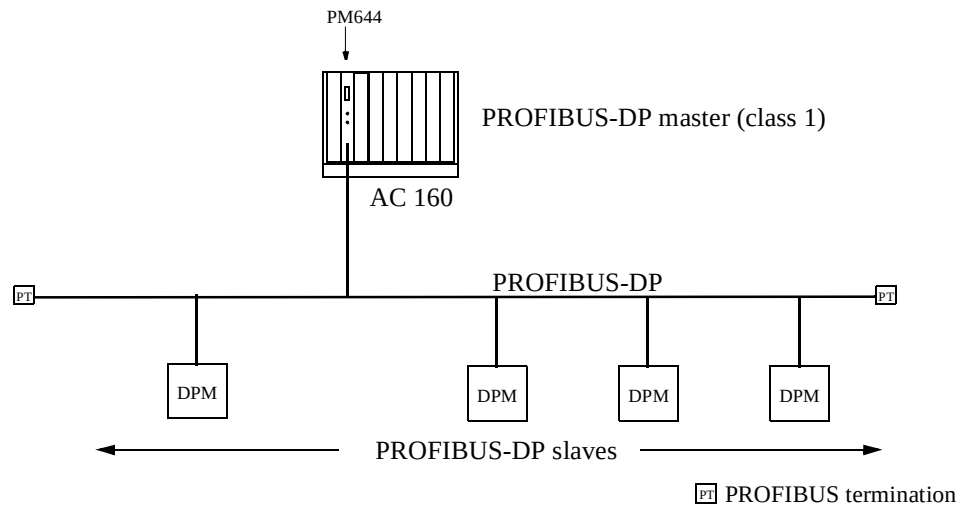

Figure 3-8. Sample PROFIBUS-DP configuration
- Communication with up to 125 PROFIBUS-DP slaves per PROFIBUS, via twisted pair bus cables according to EN 50170 (Figure 3-8).